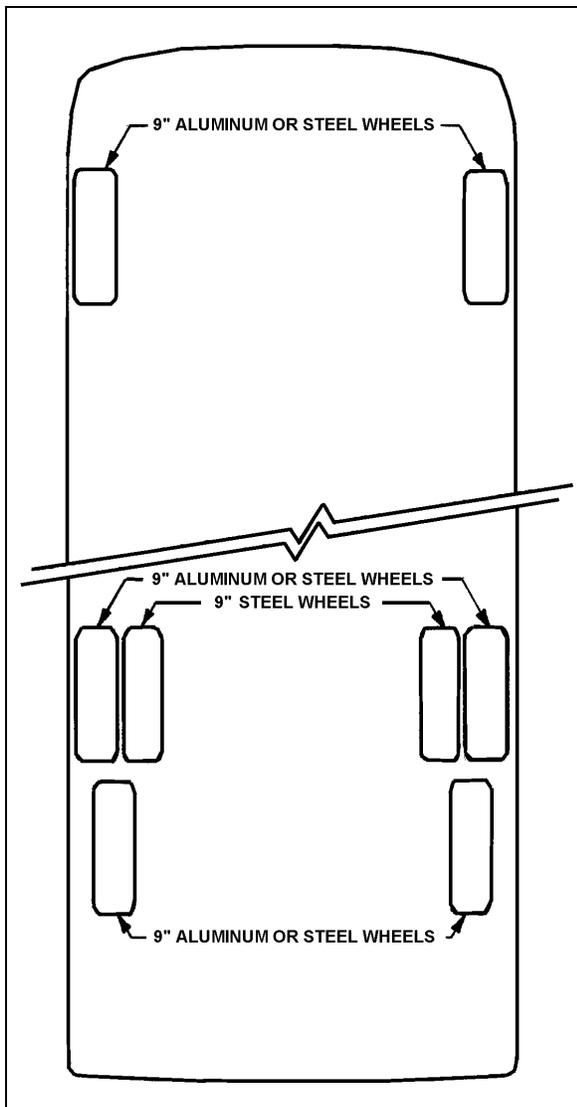

FIGURE 1: ALUM/STEEL WHEEL ARRANGEMENT 13001H3
| FIGURE 1: ALUM/STEEL WHEEL ARRANGEMENT | 13-3 |
3. Tighten inner cap nuts progressively according to sequence shown in Figure 1. Final tightening should be done with a torque wrench. Tighten inner cap nuts to 450 - 500 ft-lbf (610 - 680 Nm) for aluminum as well as steel wheel.